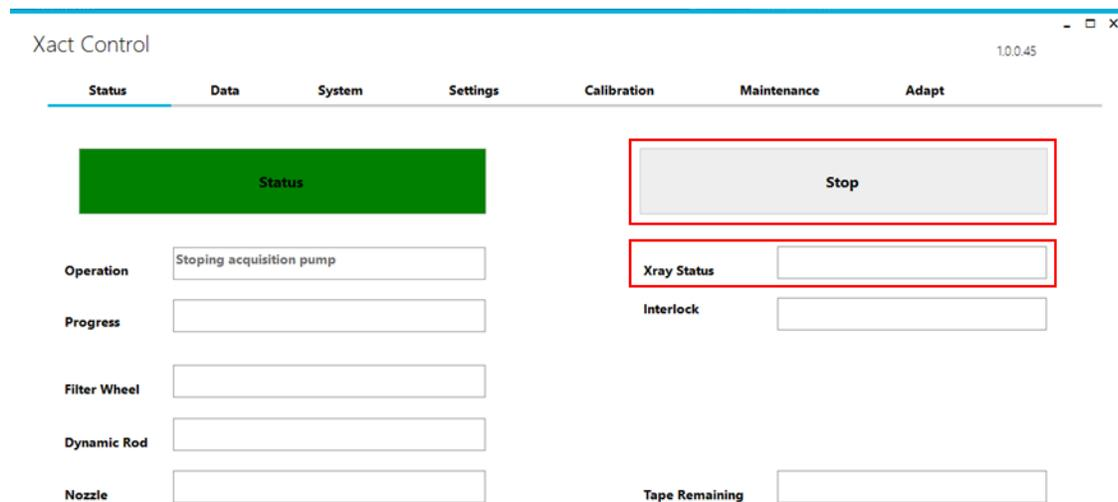

Figure 9.1 Xact control page for instrument shutdown.
- 9.1 On the Xact Control home screen (Xact Control >> Status), click on the “Stop” button to place the instrument on Stop mode (**Figure 9.1**). Wait for the ‘Xray Status’ message bar to indicate that the X-ray is ramping down. The red X-ray light on the front door will stop illuminating when ramp down is completed.